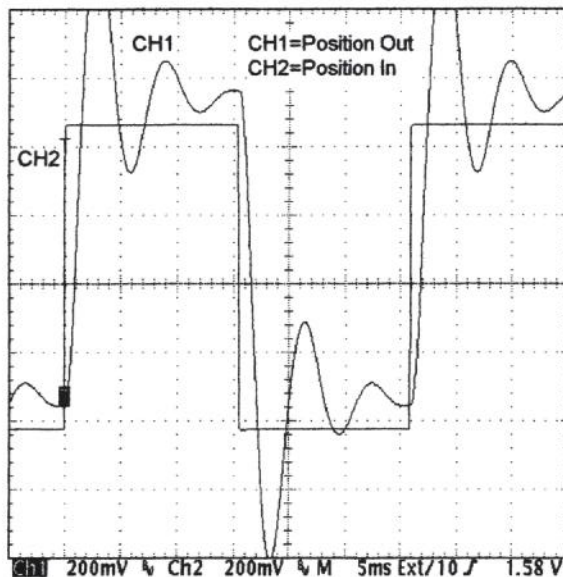

Figure 1.
7. The scanner should now be responding to the input waveform, but should look very underdamped. Continue to turn R28 CW until the oscillations just die out before the next half cycle of the input signal. See figure 1.